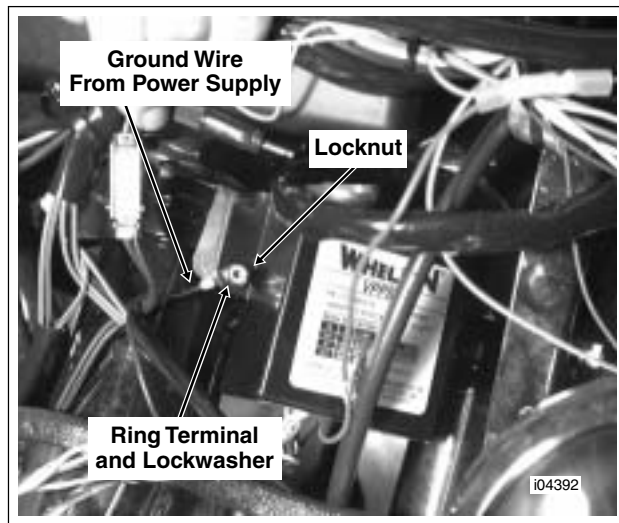

Figure 8-9. Install Ground Wire Ring Terminal
8. See Figure 8-9. While holding the power supply and mounting screw in position, remove the locknut and lockwasher loosely installed. Install black (ground) wire ring terminal onto screw and reinstall lockwasher and locknut. Tighten locknut securely.